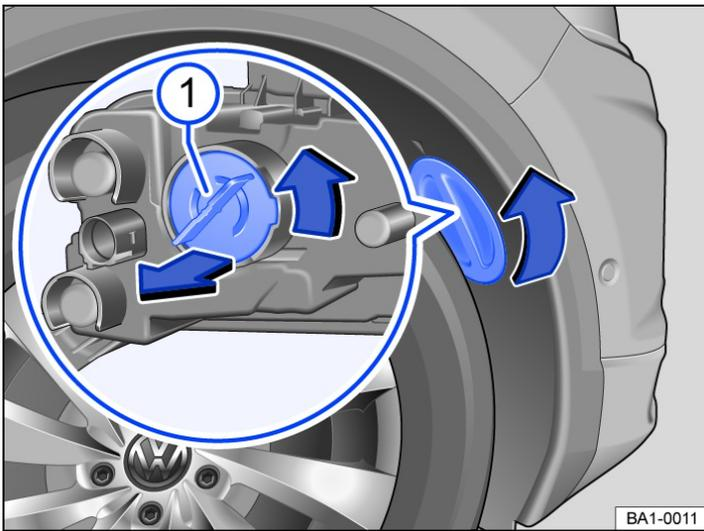

Fig. 1 In the front bumper on the right: changing a turn signal bulb.
3. Turn the cover in the wheel housing liner in the direction of the arrow and remove it → Fig. 1.